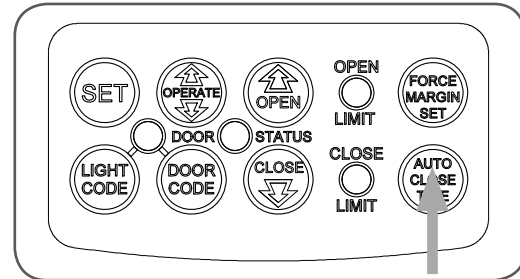

fig 31
- Hold down the AUTO CLOSE TIME button (**Fig. 31**).
The GDO-6 has the input to connect bell switch or keyswitch to open or close the door. Connect the key/bell switch as per diagram (**Fig. 31**).